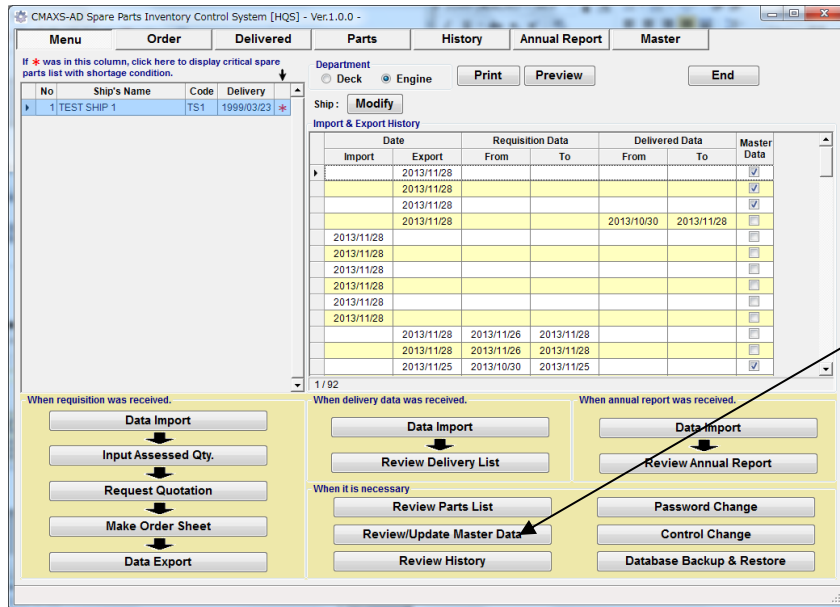

Fig.13-1 Menu Screen
- (1) On the “Menu Screen”(Fig.13-1), select [Review / Update Master Data].
- (1) On the “Menu Screen”(Fig.13-1), select [Review/Update Master Data].